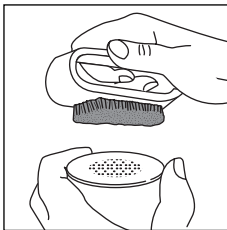
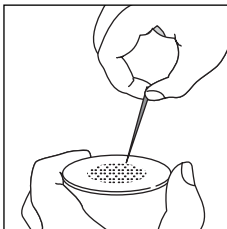

fig. 26
fig. 27
- Rinse all components and clean the metal filter thoroughly in hot water using a brush (fig. 26). Make sure the holes in the metal filter are not blocked. If necessary, clean with a pin (see fig. 27) or, preferably, by burning the particles obstructing the holes over a flame (TAKE CARE TO AVOID BURNS).
- Clean the outlet thoroughly in hot water using a brush. Make sure the holes are not blocked. If necessary, clean with a pin (fig. 27).